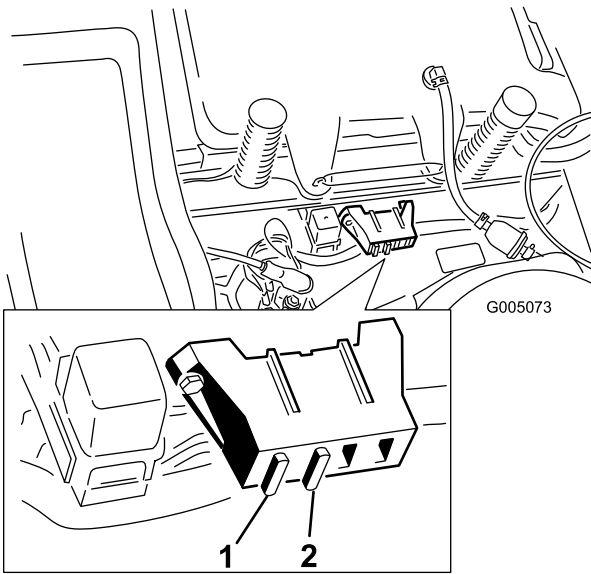

Figure 40
- Raise the seat to gain access to the fuse holder (Figure 40).
- To replace a fuse, pull out on the fuse to remove it (Figure 40).